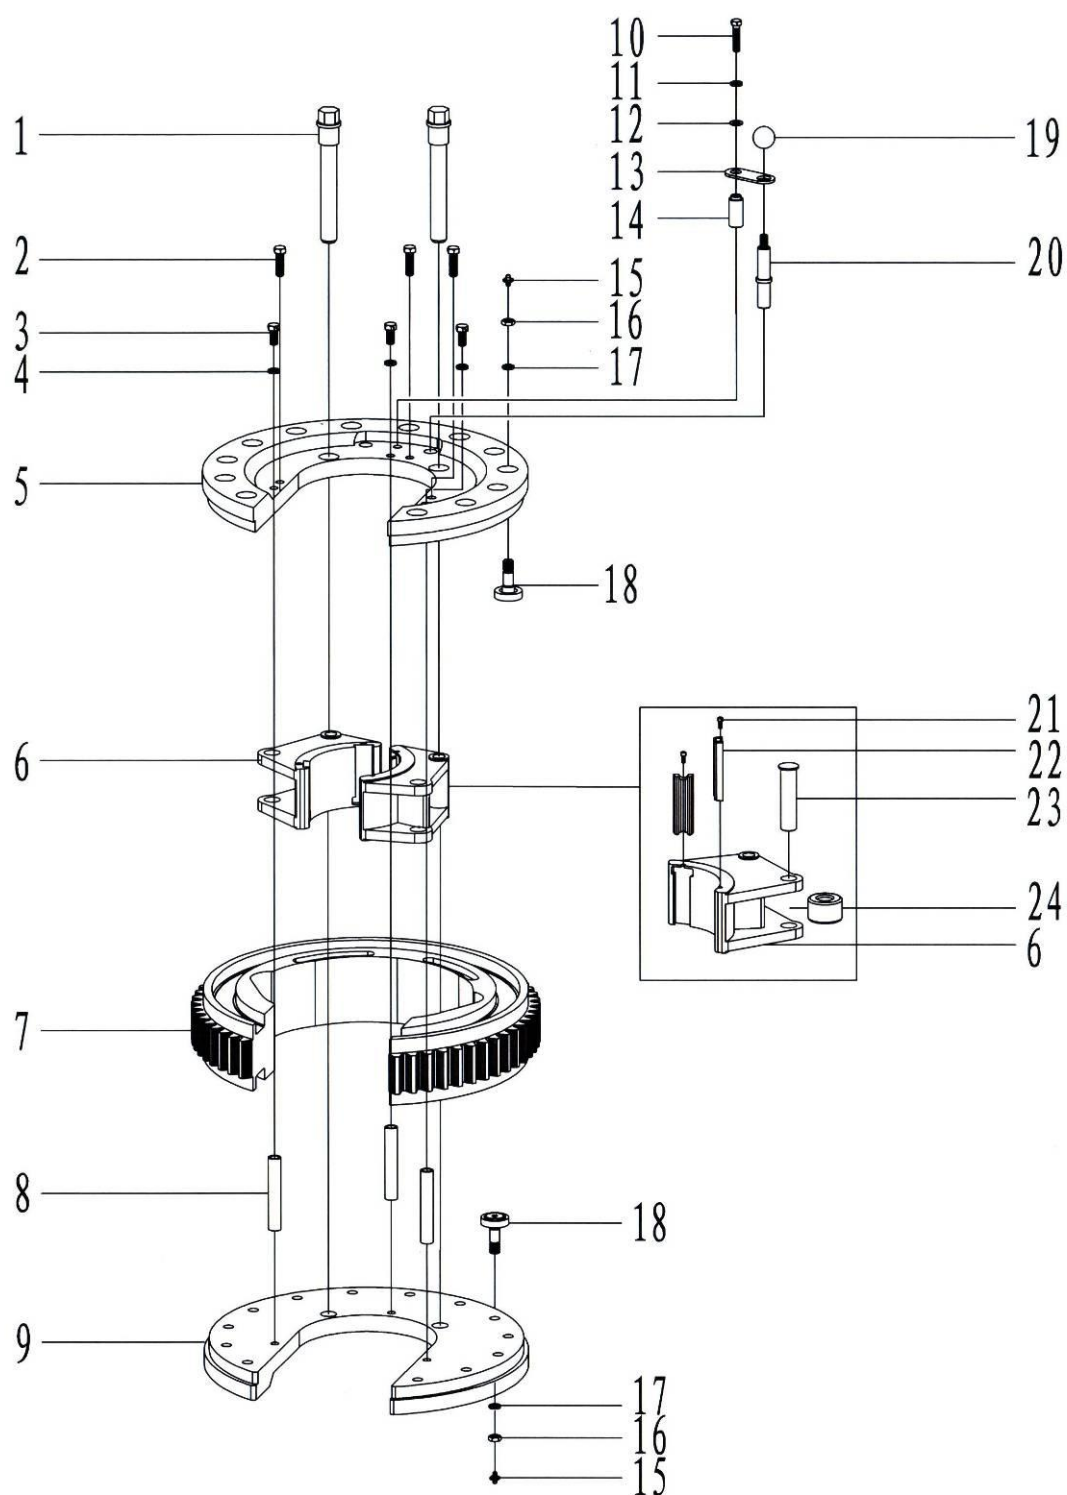

Fig. 4
7.1.1 Tong head assembly(Fig.4, Table.3)